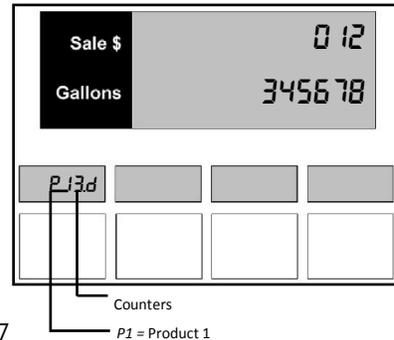

Figure 26.4 Counter Totals
1. Press the +/- button. The main display indicates Product 1 counter totals, as shown in Figure 26.4.